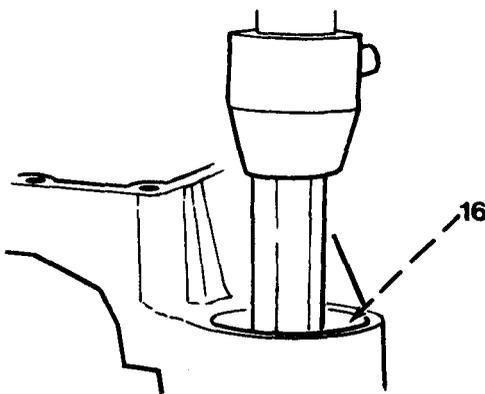

Figure 6-6
2. Press roller bearing (16, Figure 6-6) out of fan hub housing.
1. Pack roller bearing (16, Figure 6-6) with grease. Press fan hub into fan hub housing, flush with front of housing.